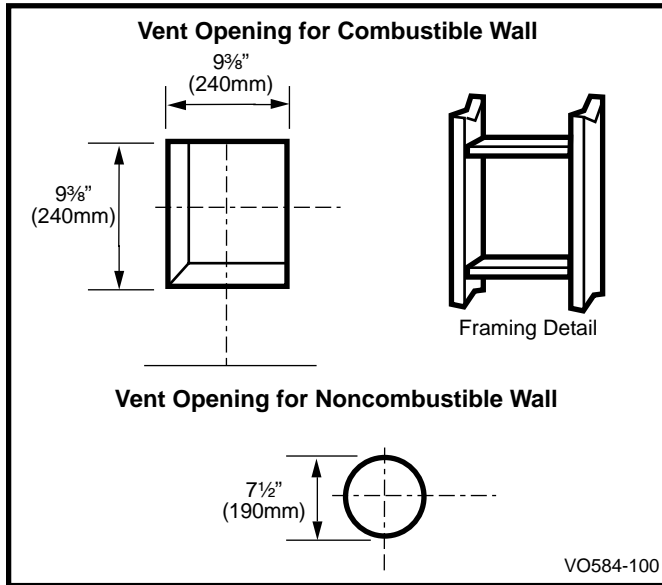

Fig. 24 Locate vent opening on rear wall.
Locate and cut vent opening in the side wall. It may be necessary to first position the fireplace and measure to obtain the hole location. Depending on whether the wall is combustible or noncombustible, cut the opening to size per Figure 24.
Combustible walls: Cut a rectangular hole measuring 9⅜" H x 9⅜" W (240 x 240mm) through the exterior wall and frame. Frame in the opening per Figure 24.
Noncombustible walls: Cut a round hole measuring 7½" (190 mm) diameter through the exterior wall and frame. (Fig. 24)
1. Establish vent hole through the wall. (Fig. 24)